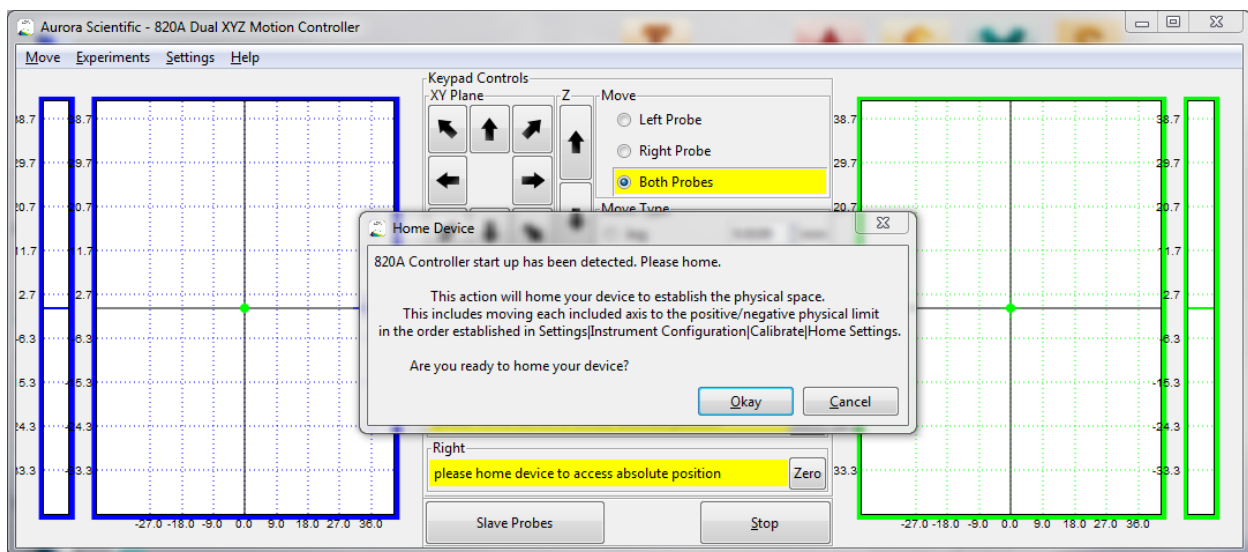

Figure 1 Main Window of ASI820A Control Program with Home Device Prompt Showing
12. Start the software on the PC and calibrate the stages. The Calibrate function determines each stage's range of motion and places the stage at a known location. If the 820A has already been calibrated then perform a Home function (see Figure 1) instead of the Calibrate function. The Home function moves the stages to one end of the range of motion to set the stages at a known location (this location is the switch position at the end of the range of motion).